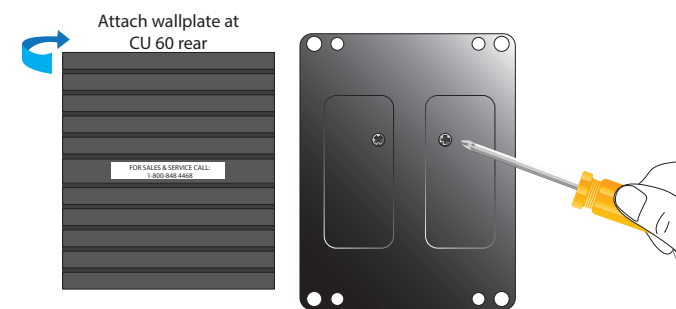

Fig. 1.5
- 6 Attach the CU to the CU wallplate using the provided hardware (see Fig. 1.5).